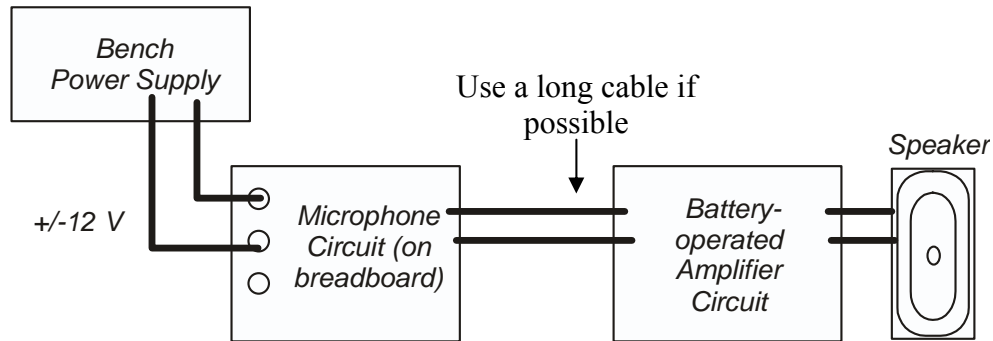

Figure 1-8 – Test circuit for microphone and amplifier modules
- Connect the microphone circuit output to the unused “aux” input on your amplifier circuit. Demonstrate the working circuit to the TA and answer the remaining questions in the LAB RECORD. For this step, C2 should be removed from the circuit, and the level-adjust potentiometer should be set to the middle of its range. It also helps to keep the microphone and audio amp circuits as far apart as possible, try using a long cable as suggested in Figure 1-8.